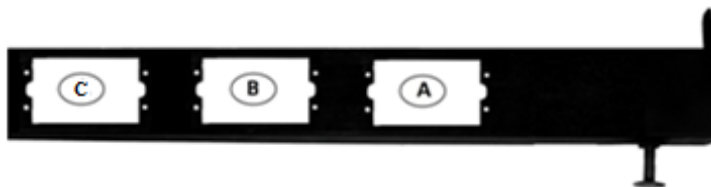

Figure 2 – Remove Knockout "A", "B" & "C" in Subbase
Step 2— Remove knockouts "A", "B" & "C" from subbase as shown in Figure 2. Knockout hole "A" is for a receptacle outlet. If receptacle is already installed in knockout hole "A", it must be removed along with the junction box.